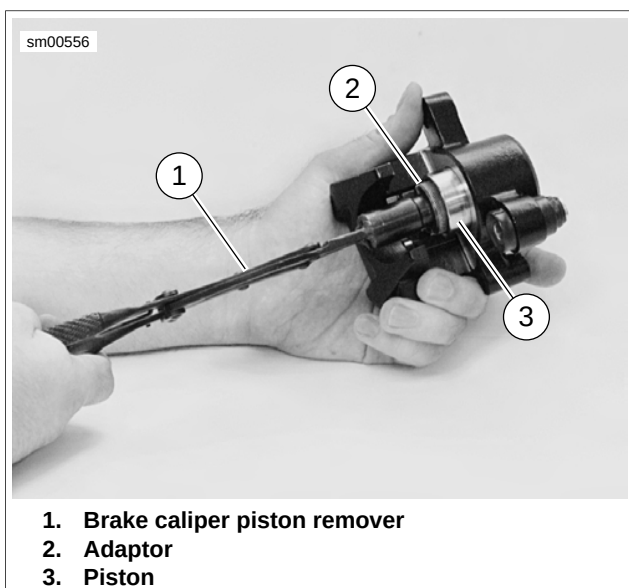

Figure 2-67. Removing Rear Brake Caliper Piston
- 3. See Figure 2-67. Remove piston (3) using BRAKE CALILPER PISTON REMOVER (Part No. B-42887) with adaptor (2).